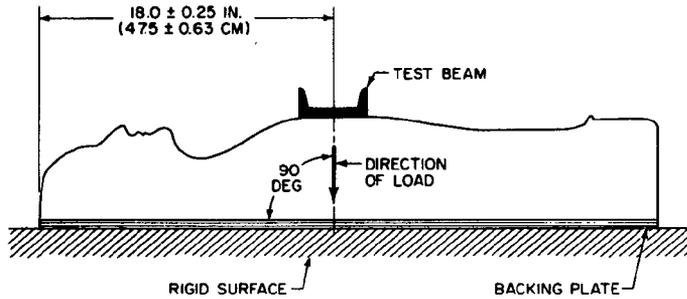

FIG. 1—TEST BEAM LOCATION
5.1.1 **SPRING RATE**—107-143 kg/cm, when the chest is loaded by a 4 in. wide by 15 in. long (10.0 by 38.0 cm) beam, 90 deg to the longitudinal axis of the body block, and parallel to the backing plate (Fig. 1). The center of the beam is placed  $18.0 \pm 0.25$  in. ( $45.7 \pm 0.63$  cm) from the top of the head, centered laterally, and preloaded to 5 lb (2.26 kg) including the weight of the beam, to establish baseline penetration. Test speed is  $10 \pm 2$  in./minute ( $25.0 \pm 5$  cm/minute). The load is measured when the beam has moved 0.50 in. (12.7 cm) into the body block from the baseline and the spring rate is obtained by doubling this load.